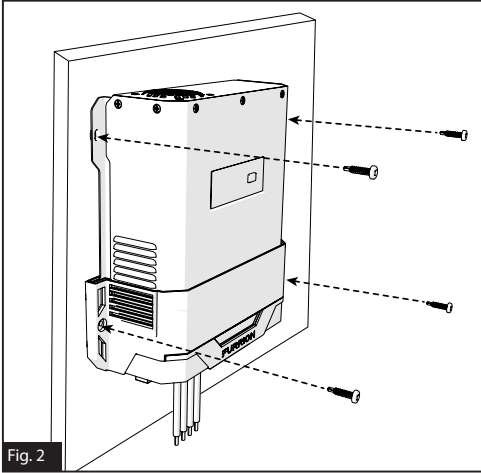

Fig. 2
- Affix MPPT controller to the wall with 4 mounting screws (can be the standard RV screw) (not included). (Figure 2)